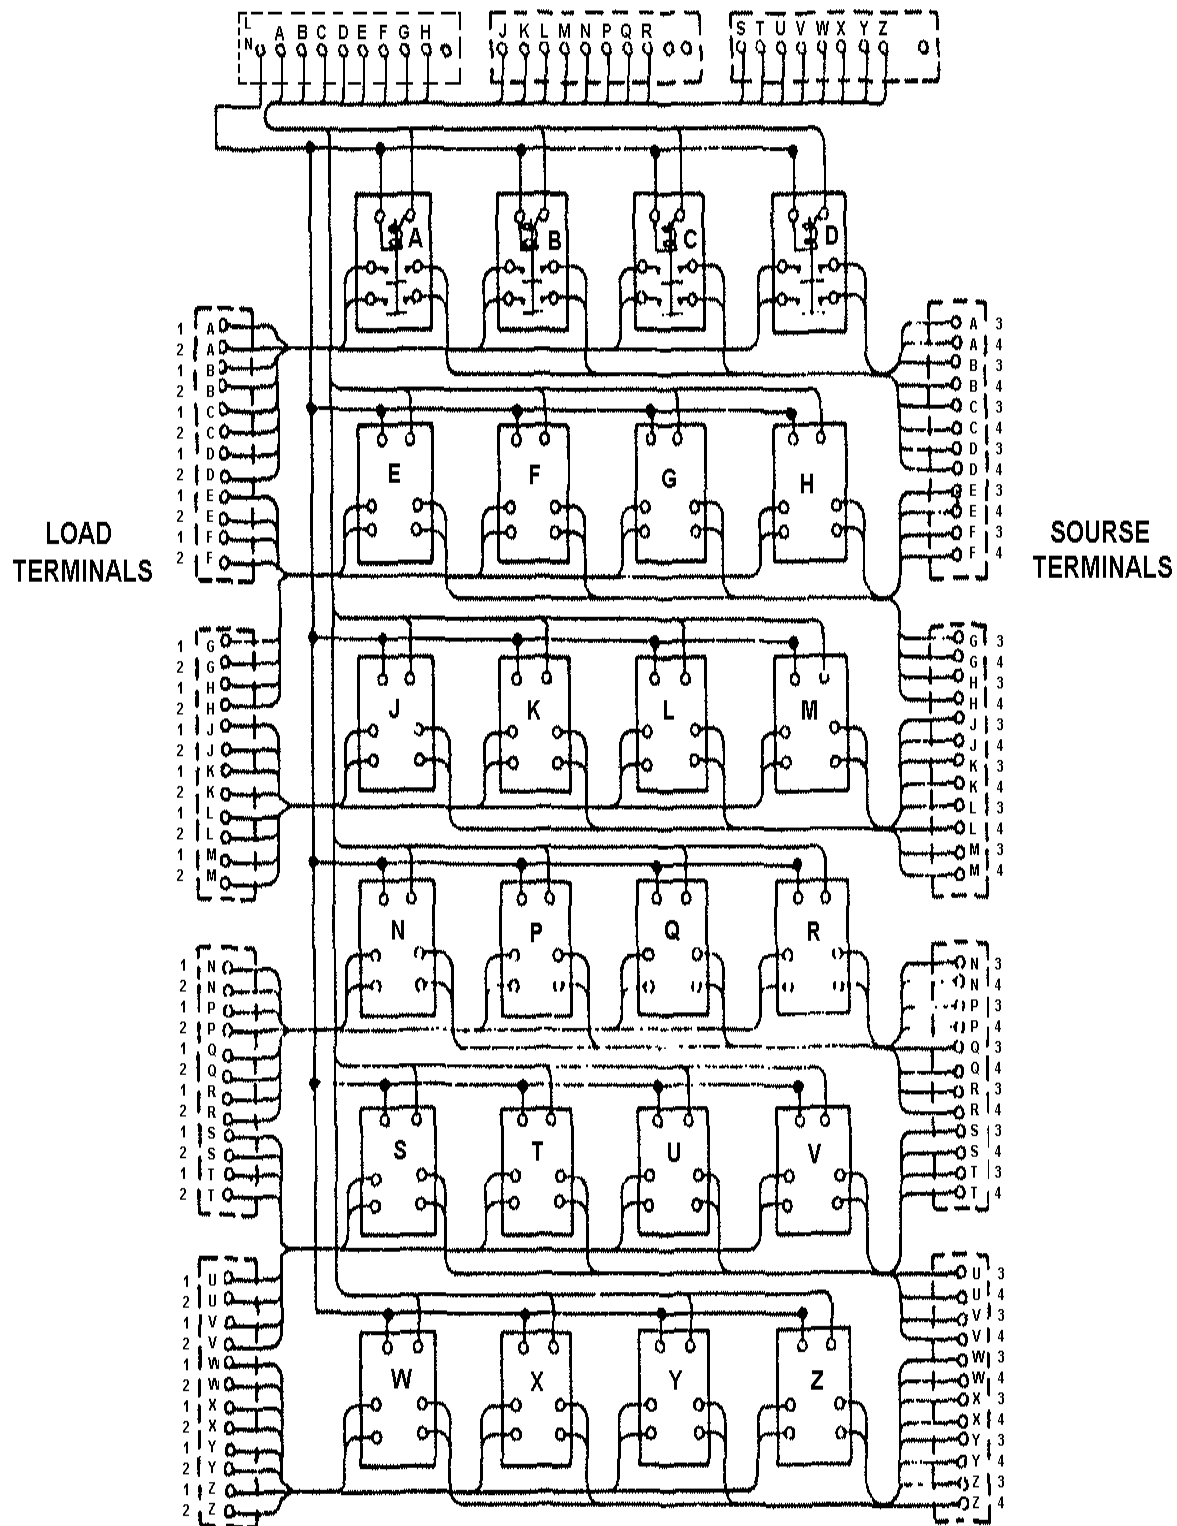

Figure 3, Pilot Relays Schematic Wiring Diagram
- The transfer relay is used to switch the system control from the tower to the vault or from the vault to the tower. The transfer relay consists of eight-pole, double-throw transfer assembly units. The transfer switch actuates these units. Figure 3 contains the schematic drawing of the transfer relay cabinet.
- A 120-volt system utilizing low burden pilot relays is used because of the distance between the control tower and the vault at many airfields. In this type of control system, the switches on the MA-1 control panel actuate the power switches, contactors, and relays controlling the regulators and transformers supplying the airfield lighting circuits. A general description of the control system will help clarify the intricate working of the controls. The low burden pilot relay is designed to operate at a wide range of voltages lower than the designed 120-volt ac rating. The pilot relay can be actuated at voltages from 50 to 120 volts AC, which compensates for the voltage drop from the tower to the vault. This voltage drop is due to the excessive distance between the tower and the vault control locations. The whole purpose of the low burden pilot relay is to provide 120 volts to the regulators. The No. 12 AWG wire carries 120 volts to the tower. The six No. 18 wires carry a voltage, due to the resistance in the wire caused by the long distances, somewhere between 50 and 120 volts back to the vault to operate the low burden pilot relays. When the low burden pilot relays operate, they supply the fresh 120 control volts to the regulators' brightness step relays. See figures 3 and 4 for the wiring diagram of the low burden pilot relay equipment cabinet and connections.